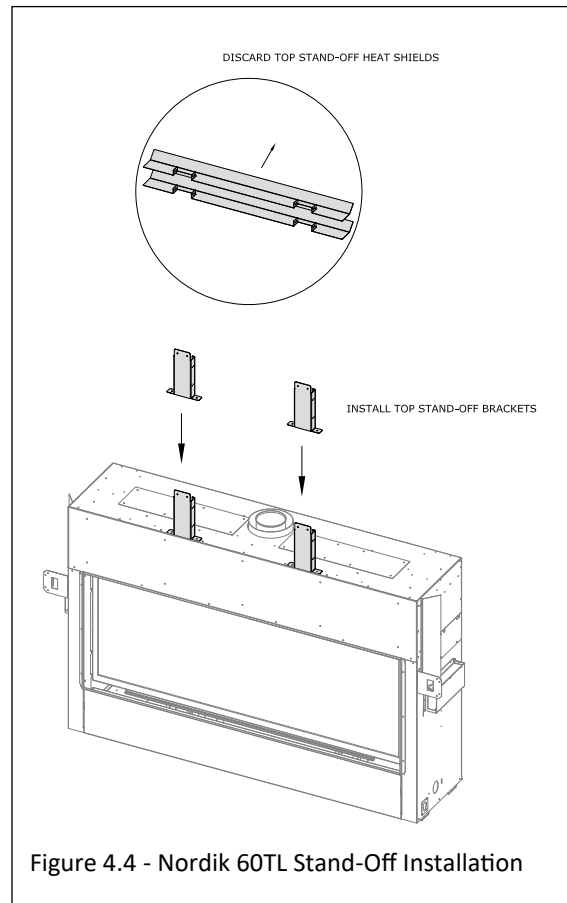

Figure 4.4 - Nordik 60TL Stand-Off Installation
7. Install top stand-off brackets. See Figure 4.4.
8. Discard the (2) top stand-off heat shields.